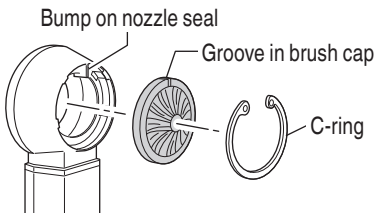

Fig. 27
- ① Remove the nozzle seal as shown in the figure.
- ② Attach a new nozzle seal. Align the nozzle seal so that its notch fits onto the outer shape of the nozzle.
- (b) Replacing the brush cap (Fig. 27)